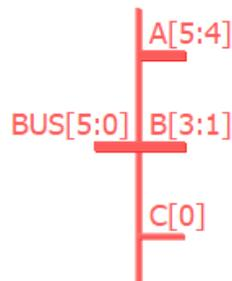

Figure 2.30. Schematic View Shows Split Module
3. Click **OK**. The schematic block for the split module in red appears in the Schematic view (Figure 2.30).